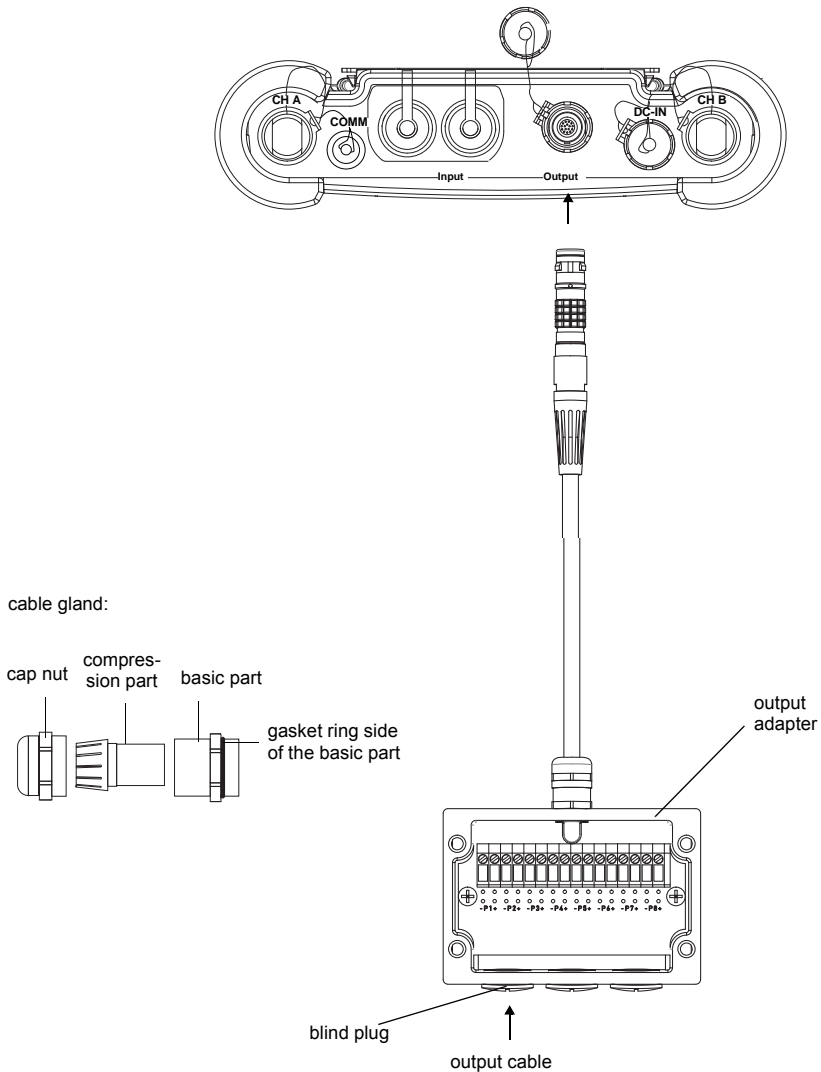

Fig. 7.10: Connection of the output adapter to the transmitter FLUXUS F608
The output adapter has to be used for the connection of the output adapters (see Fig. 7.10).
- Push the output cable through the cap nut, the compression part and the basic part of the cable gland (see Fig. 7.10).
- Insert the output cable in the housing (see Fig. 7.10).
- Fix the cable gland by screwing the cap nut on the basic part of the cable gland (see Fig. 7.10).
- Connect the leads of the output cable to the terminals of the output adapter (see Fig. 7.10 and Tab. 7.2).